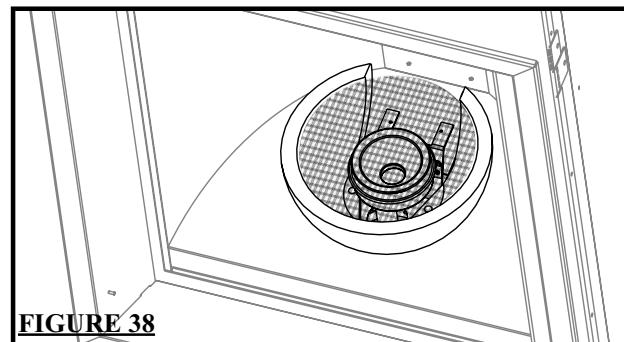

FIGURE 38
2. Place the steel mesh inside the bowl making sure there is even space between the mesh and edge of bowl. (Fig. 38)